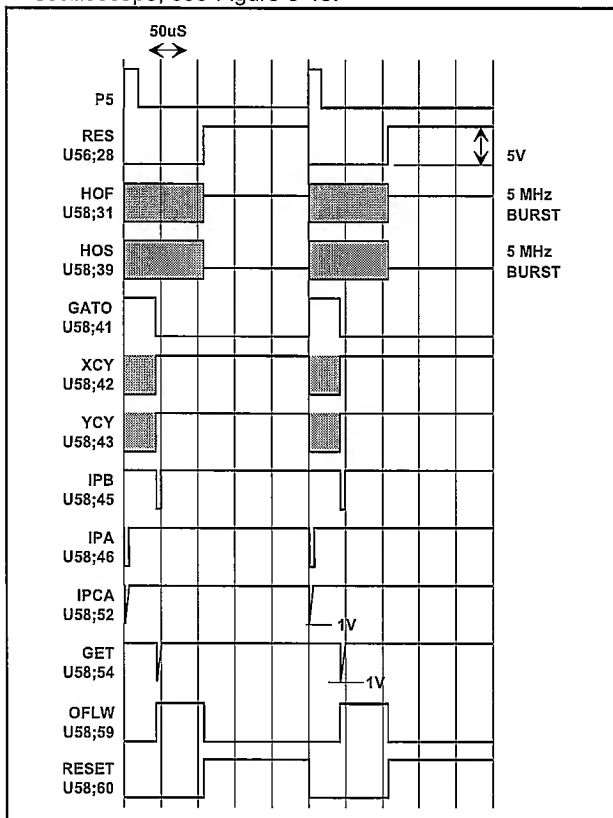

Figure 5-18 Timing diagram for ASIC stimuli test program.
- The timing diagram in Figure 5-18 shows the signals generated by the stimuli program.